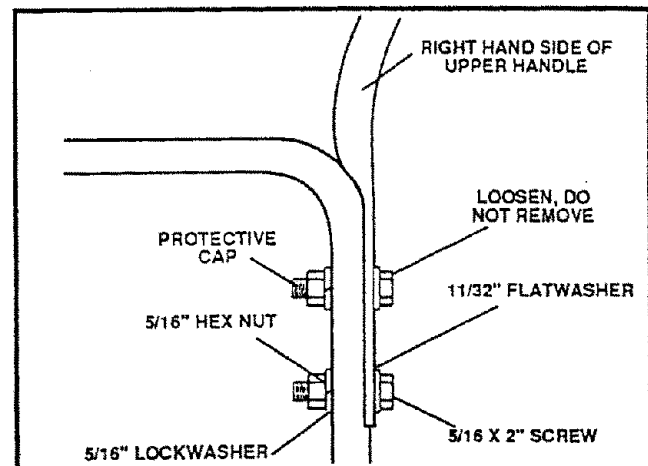

FIG. 3-ASSY
- Loosen, but do not remove the screws, flatwashers, lockwashers and hex nuts in the top holes of the lower handle. See FIG. 3-ASSY.